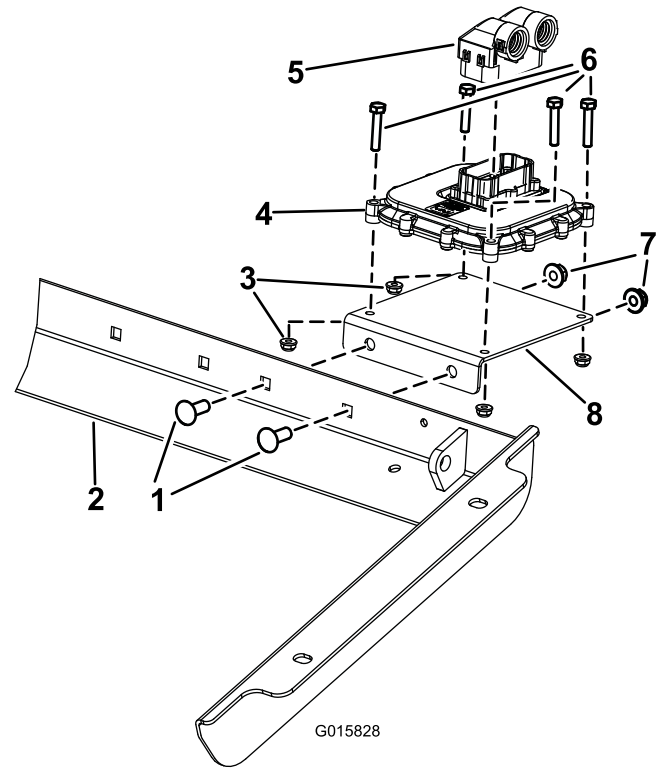

Figure 2
1. Mount the controller bracket to the frame using 2 carriage bolts and 2 flange nuts (Figure 2).
2. Secure the controller to the controller bracket using 4 bolts and 4 nuts as shown in Figure 2.
3. Insert and secure the wiring harness connector into the controller as shown in Figure 2.